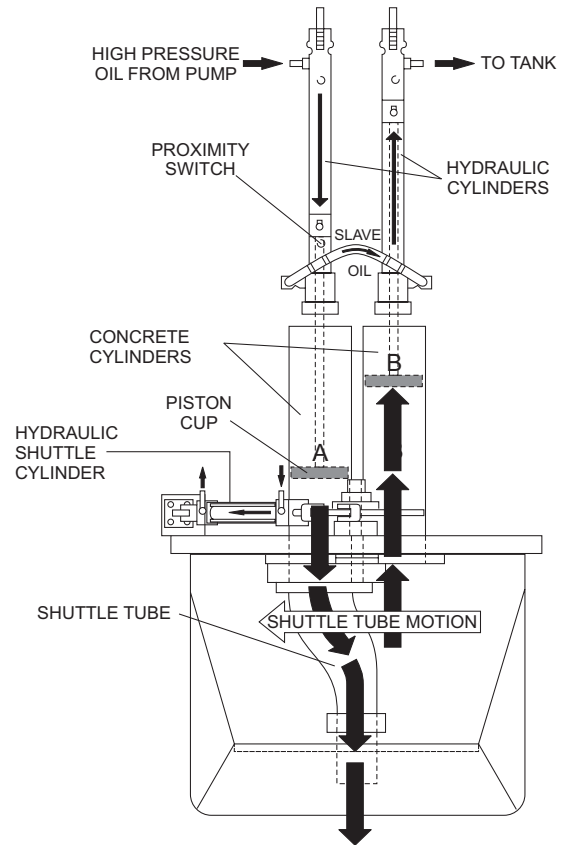

Figure 4. Pumping Cycle 2
The shuttle tube is sequenced to pivot to each concrete cylinder as the drive cylinders stroke to push concrete. As the second cycling sequence begins (Figure 4), the shuttle tube pivots to the opposite cylinder (A).